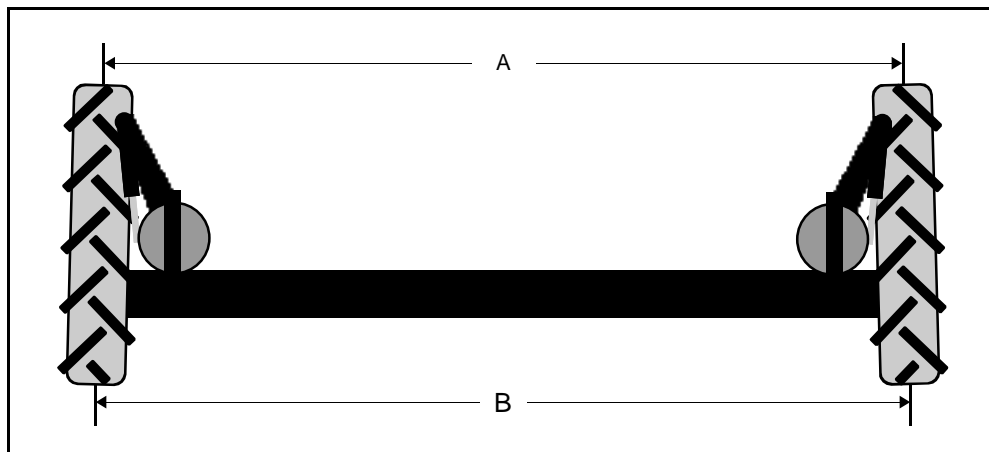

FIG 7.53
4. Move left and right tires evenly until difference in dimension "A" and "B" (fig. 7.53) are within specified range.